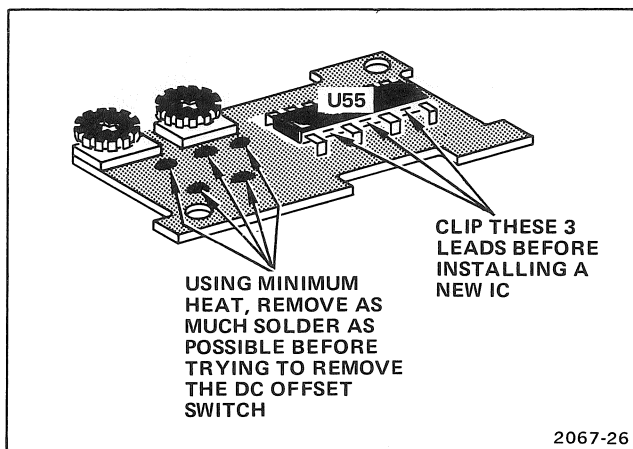

Figure 5-6. U55 removal.
When installing a replacement IC, be sure to clip the leads as shown in Figure 5-6.
U55 is soldered on the probe control body circuit board (see Fig. 5-6). It isn't very easy to remove by unsoldering the leads. If you are sure U55 is defective, the easiest way to remove it is to clip the leads.
3. Using a vacuum desoldering tool or Solderwick [®], remove as much solder as possible from the 5 switch leads (see Fig. 5-6).